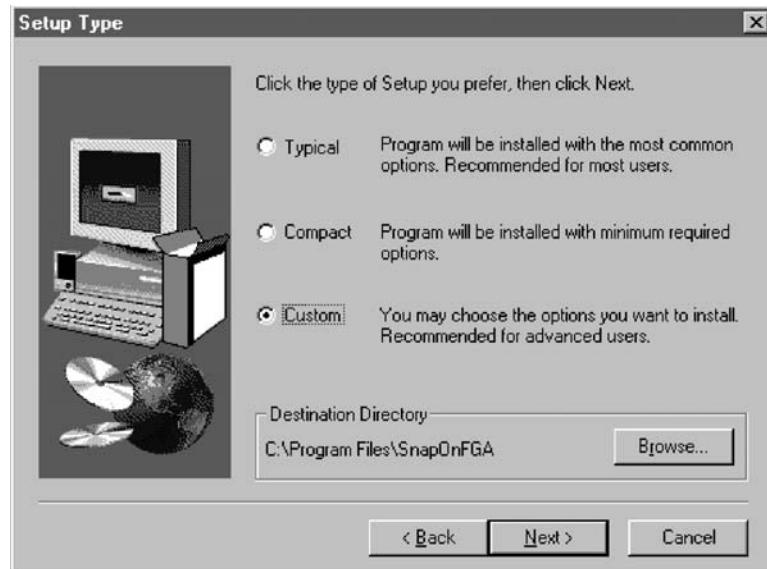

Figure 3B-2: Choosing Custom Installation
- After selecting Custom setup and selecting the Next button, the screen in *Figure 3B-3* appears.